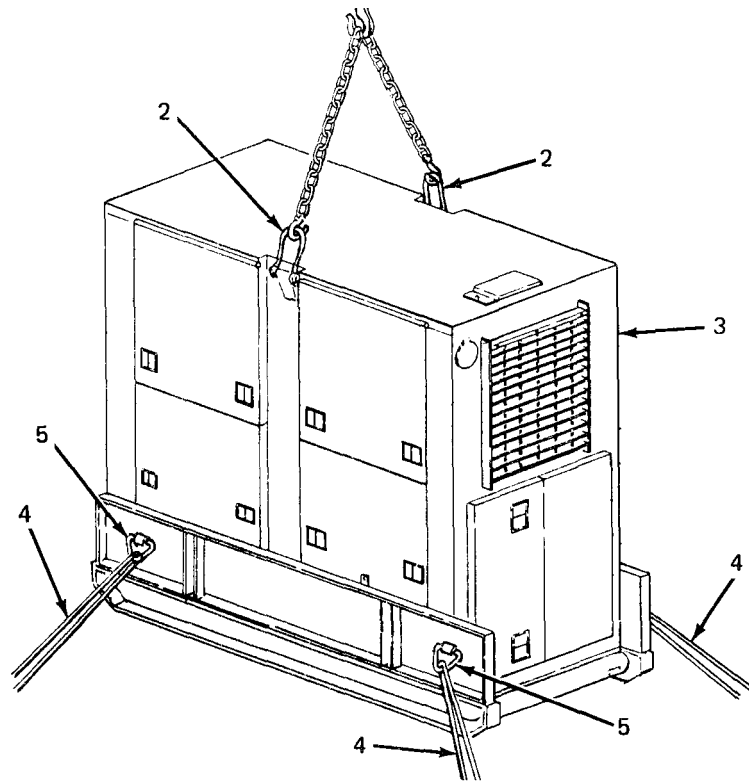

Figure 5-4. Lifting Generator Set.
- (3) Attach lifting equipment with a minimum lifting capacity of 3500 lb (1, figure 5-4) to both lifting eyes (2) on top edges of generator set (3). Insert a rope (4) through each of four tiedown rings (5) on generator set.
- (4) With one person at each rope to steady and guide generator set (3), lift generator set off of trailer.
- (1) Attach lifting equipment with a minimum lifting capacity of 3500 lb (1, figure 5-4) to lifting eyes (2) on top edges of generator set (3). Insert a rope (4) through each of four tiedown rings (5) on generator set.
- (2) With one person at each rope to steady and guide generator set (3), lift generator set and carefully lower it onto trailer.